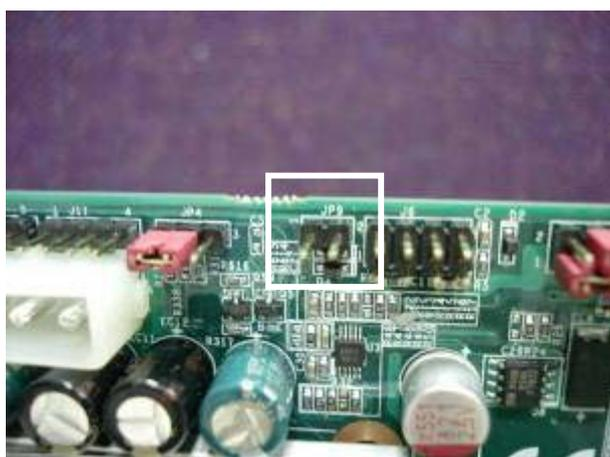

Figure 5-1
Step1: The JP9 Jumper is opened in ATX mode. (Figure 5-1)